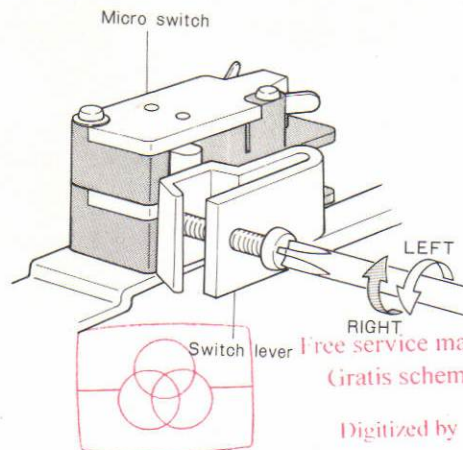

Fig. 7
- 1) Bend the adjust screw to the left or right and adjust so that the switch works smoothly when the power is switched on and off. (Refer to Fig. 7)